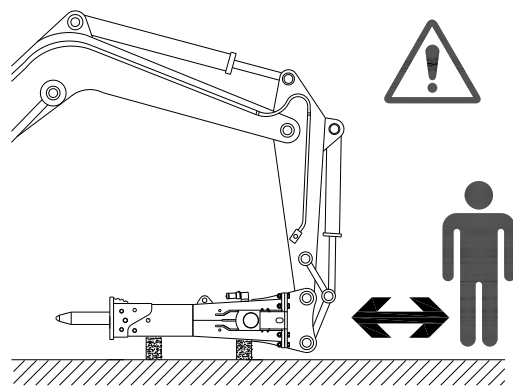

Fig. 9-2 Attach Breaker to Carrier – Typical
1. Operator: Move carrier and breaker to a firm level surface. Refer to Figure 9-2. Position the breaker horizontally with the hose side up and with the breaker's tool pointing toward the carrier.